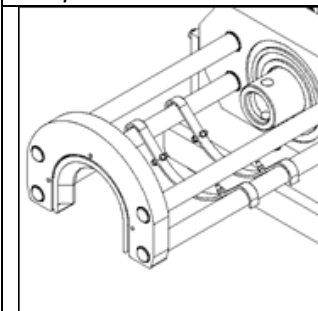

Figure 24 – Pulling Frame Placement
- 5.3.7 Place the Installing Tube Cradles between the lower arms of the Pulling Frame (Figure 24).